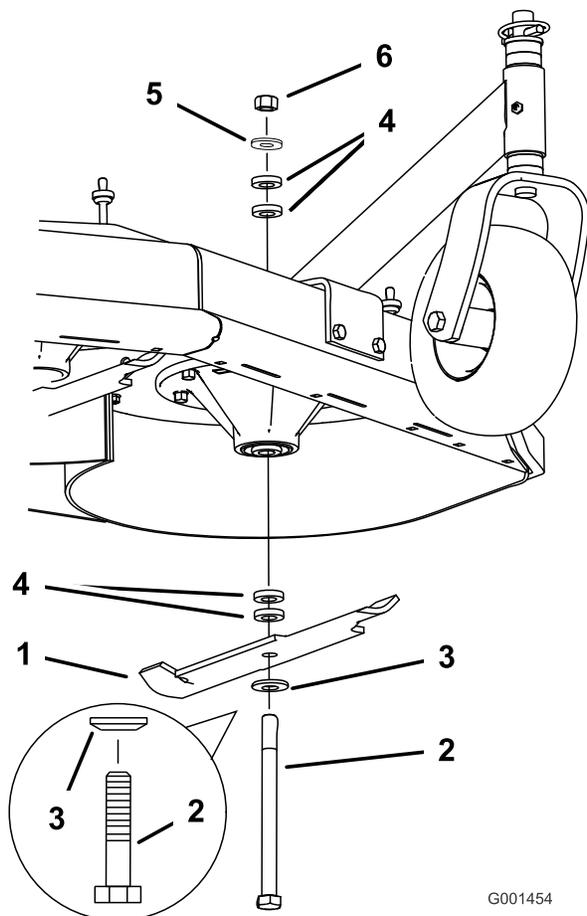

Figure 55
2. Remove the nut, blade bolt, curved washer, blade, spacers, and thin washer from the spindle (Figure 55).
1. Install the curved washer and then the blade onto the bolt. Select the proper number of spacer(s) for the height-of-cut, and slide the bolt into the spindle (Figure 55).
2. Install the remaining spacer(s) and secure them with a thin washer and a nut (Figure 55).